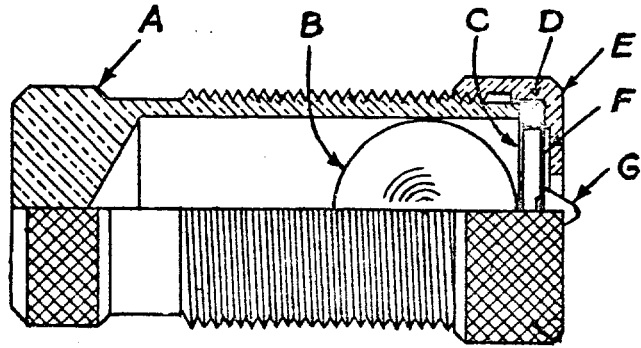

FIG. 8 CONTACT ASSEMBLY FOR CBP AND CCP RELAYS
Each stationary contact, Figure 8 is mounted on a flat spiral spring (F) backed up by a thin diaphragm (C). These are both mounted in a slightly inclined tube (A). A stainless steel ball (B) is placed in the tube before the diaphragm is assembled. When the moving contact hits the stationary contact, the energy of the former is imparted to the latter and thence to the ball, which is free to roll up the inclined tube. Thus, the moving contacts come to rest with substantially no rebound or vibration. To change the stationary contact brush, remove the contact barrel and sleeve as a complete unit after loosening the screw at the front of the contact block. Unscrew the cap (E). The contact brush may then be removed.